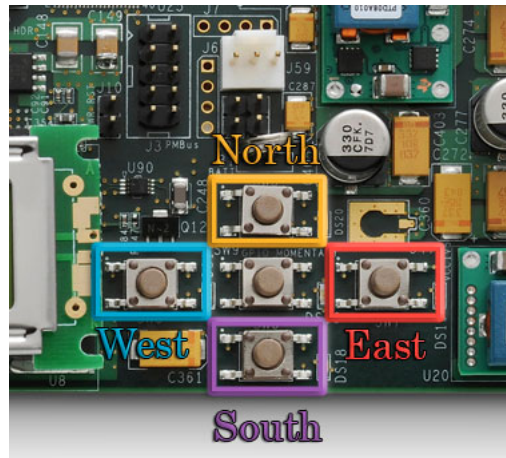

Figure 1-21: ML605 North, South, East, West, and Center Pushbuttons
19. Type an **A** to test the North, South, East, West, and Center pushbuttons (as shown in Figure 1-21).